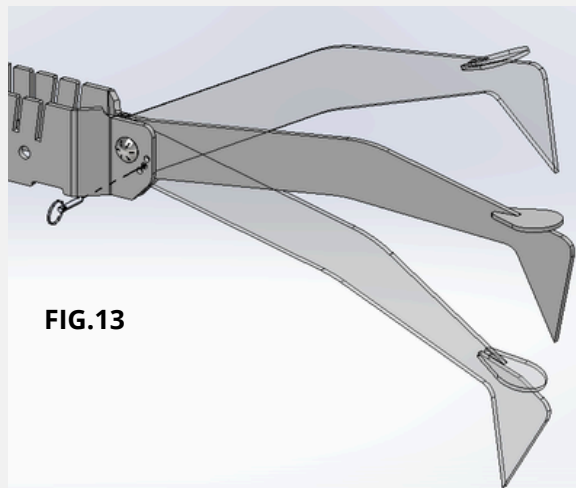

FIG.13
- Adjust using the Front Leg Quick Pin Adjustment. Before doing this, you should remove the center column as it is too heavy to adjust with it and the paddles installed. Remove the 1" Quick Pin, adjust the angle, and re-install the Quick Pin. There are 3 locating holes in the front base and 6 holes in the front foot; this gives you adjustment in intervals of 5 degrees each. Use the front foot and the adjustment holes to adjust the stand angle, as shown in FIG. 13